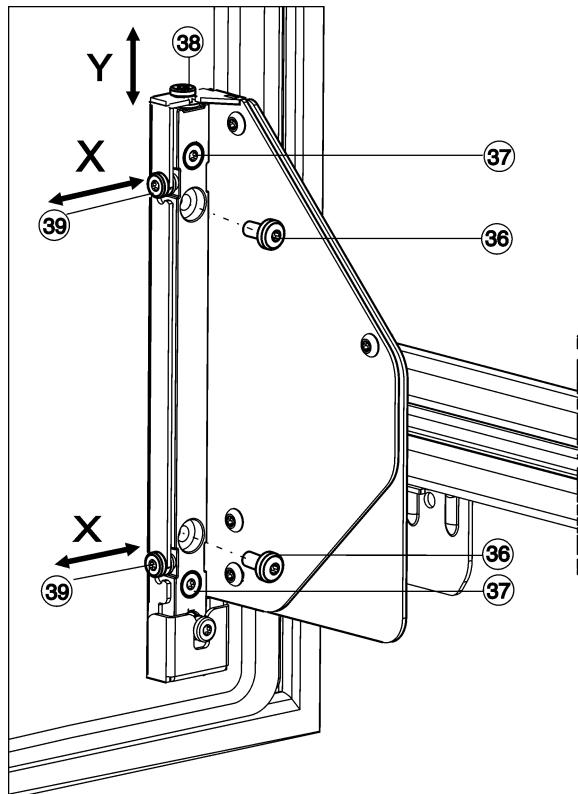

Fig. 28
- Fully screw out the screws Fig. 28 (36).
- Dispose of the screws Fig. 28 (36) as they will no longer be needed.
- Only loosen the screws Fig. 28 (37) with 1 to 2 turns.
- Turn the adjusting screw (38). In a clockwise direction: the door moves max. 4 mm upwards. In an anticlockwise direction: the door moves max. 2 mm downwards.
- Retighten all screws Fig. 28 (37).
- If the screws Fig. 28 (36) are still present, unscrew them fully.
- Adjust the adjusting screws Fig. 28 (39) according to the desired lateral adjustment direction.
- Retighten the screws Fig. 28 (37) after the lateral adjustment is complete.